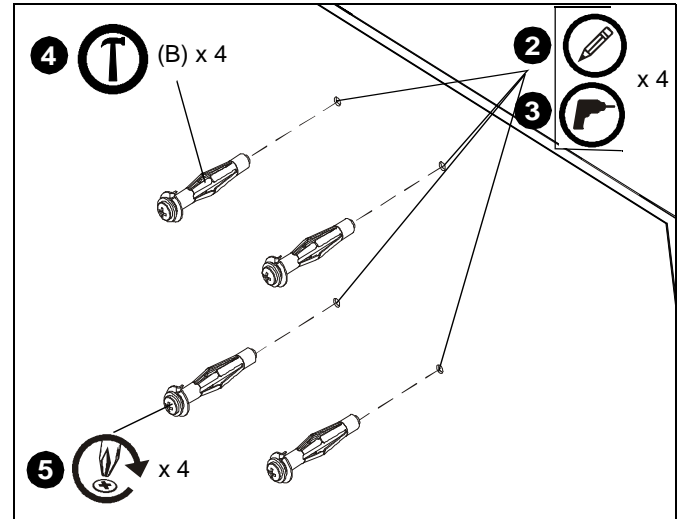
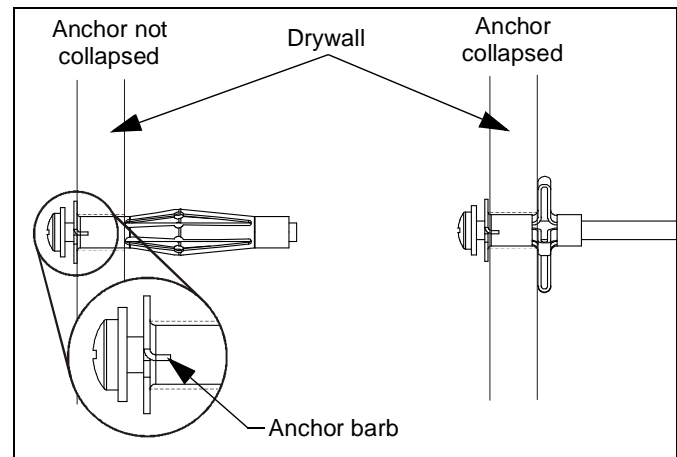

Figure 2
Figure 3
3. Drill 3/8" anchor holes. Ensure holes are straight and completely through drywall. (See Figure 2)
4. Gently tap anchor (B) into anchor hole. Anchor barbs should be fully engaged in drywall (See Figure 3).
5. Using Phillips screwdriver, tighten anchor screw until anchor has fully collapsed against back side of drywall. (See Figure 2) and (See Figure 3)